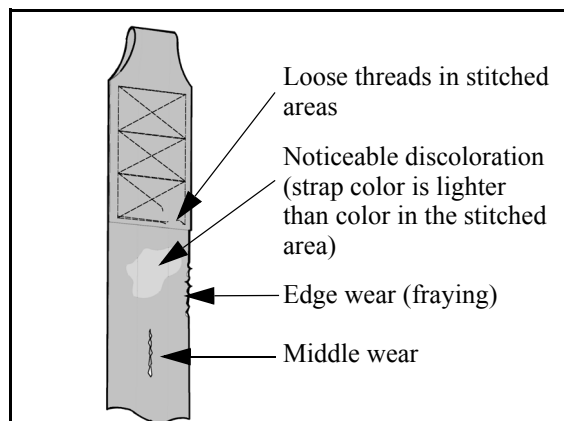

Fig. 10
- 2) Look for any signs of wear or discoloration (see Fig. 10 below).